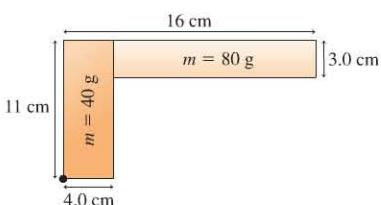

FIGURE P7.53
53. ||| The machinist's square shown in Figure P7.53 consists of a thin, rectangular blade connected to a rectangular handle.